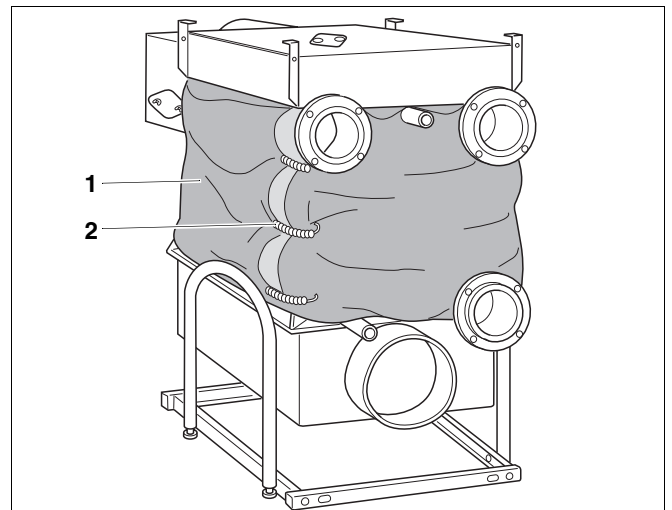

Fig. 9 Fitting insulation
- Place cutouts in the insulation (Fig. 9, **Item 1**) over the flow and return connections, and wrap insulation around the body of the unit (Fig. 9).
- Fasten the insulation (Fig. 9, **Item 1**) in place with three spring clips (Fig. 9, **Item 2**), making sure it overlaps.